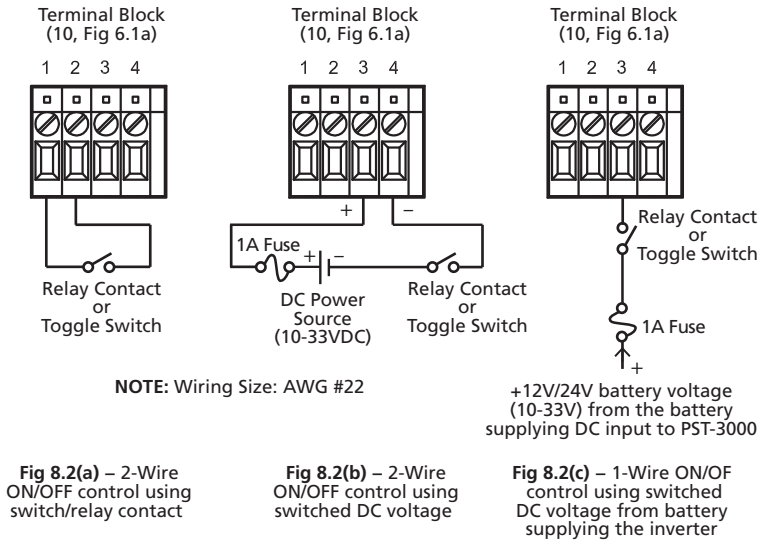

Fig. 8.2: ON/OFF Control from Remote Location using External 2-Wire or 1-Wire Control
The unit can be switched ON/OFF from a remote location using external, wired ON/OFF control arrangements as shown in Fig 8.2(a), (b) and (c). Details are given below:
- **2-Wire ON/OFF Control from Remote Location Using Switch/Relay Contact, Fig 8.2(a):**
- **2-Wire ON/OFF Control Using Switched DC Voltage (10-33VDC), Fig 8.2(b):**
- **1-Wire ON/OFF Control Using Switched DC Voltage from the Battery Supplying the Inverter, Fig 8.2(c) :**